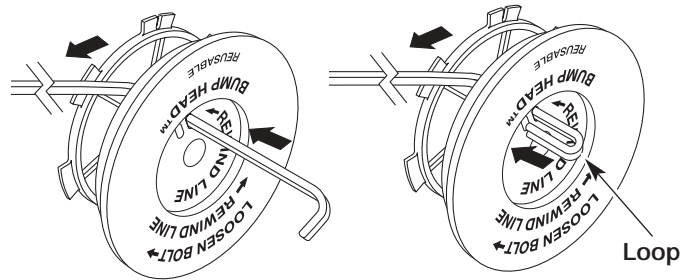

FIGURE 30
8. Take approximately 15 feet (4.57 m) of new trimming line. Insert one end of the line through one of the two holes in the inner reel, Figure 30. Pull the line through the inner reel until only about 4 inches are left out.
9. Insert the end of the line into the open hole in the inner reel and pull the line tight to make the loop as small as possible, Figure 30.